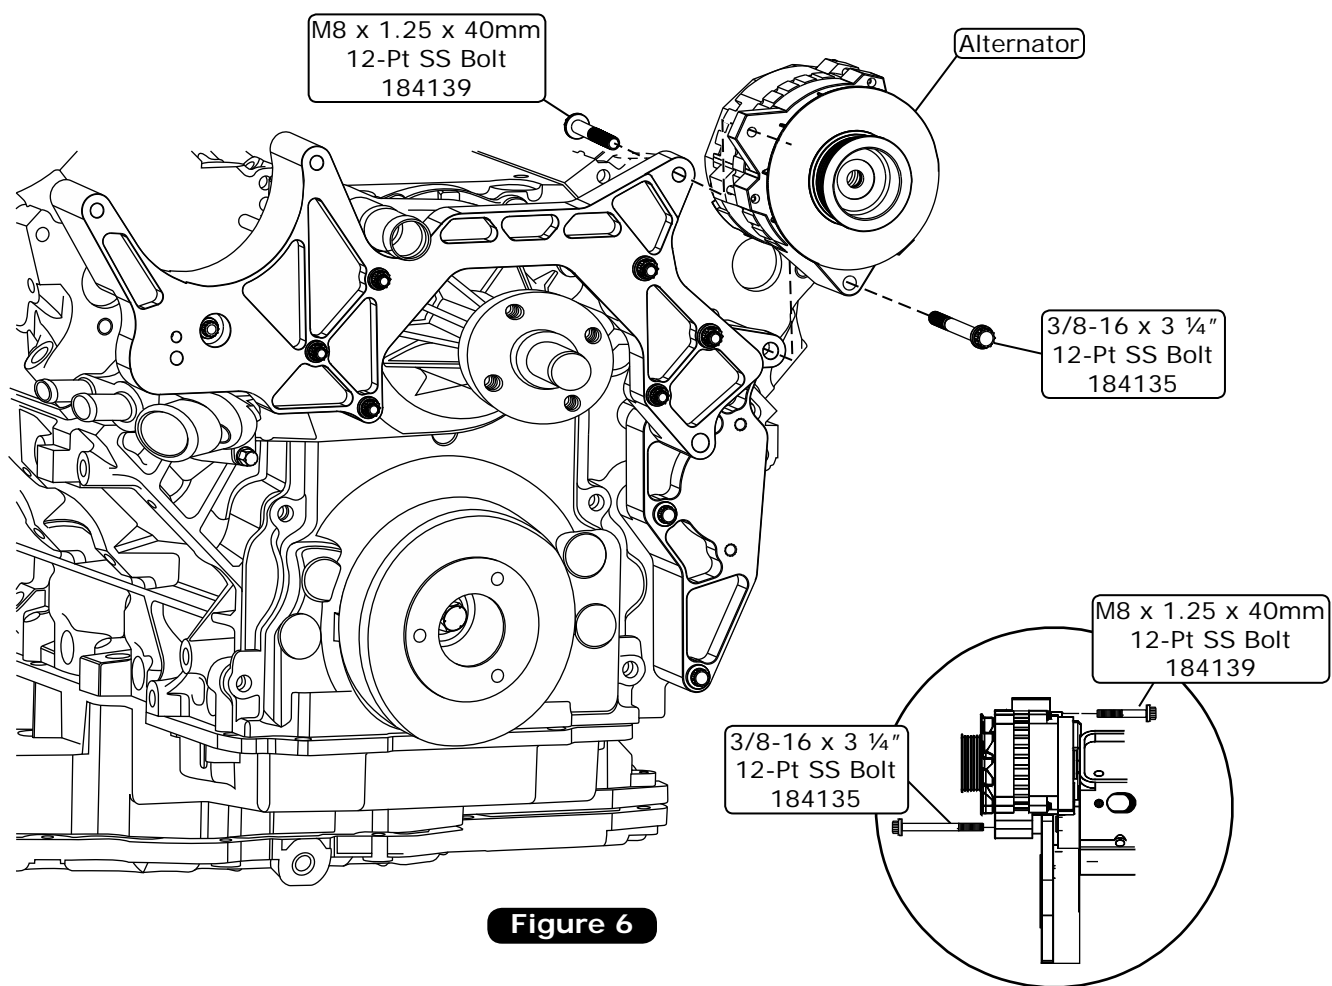

Figure 6
1. Install the alternator onto the main bracket assembly using a 8mm-1.25 x 40mm 12-Pt SS bolt for the top mount, and a 3/8-16 x 3 1/4" 12-Pt SS bolt for the bottom mount as shown in Figure 6, below. **NOTE: Once the alternator has been installed, fasteners can be torqued in place using a crisscross pattern. Torque 5/16" & 8mm bolts/studs to 22 lb ft. Torque 3/8" & M10 bolts to 37 lb ft.**